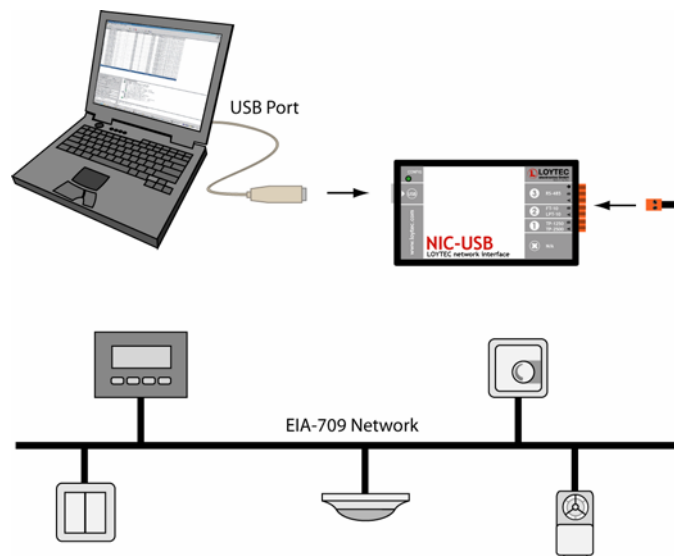

Figure 3: NIC-USB Hardware Installation
After reboot, plug in the NIC-USB(P) as depicted in Figure 3. If no LOYTEC USB devices have yet been installed on your PC, please wait till the Windows hardware assistant automatically completes driver installation. In **Windows XP** the hardware assistant will ask you some questions: